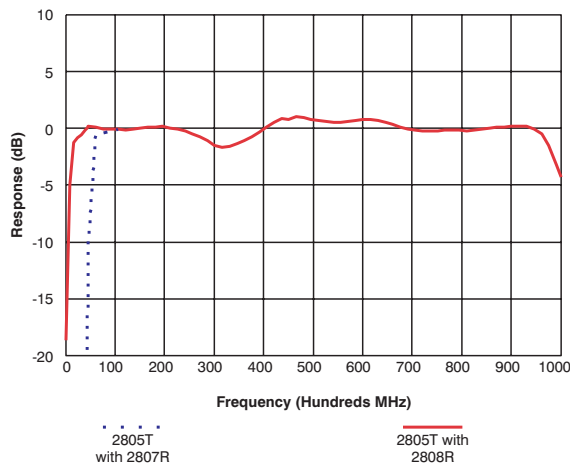

Figure 1.1 In-Band Frequency Response
- Figure 1.1 shows the typical frequency response of a 2805 link over the specified frequency range. The gain flatness is typically  $\pm 1.0$  dB over this range. The flatness is typically less than  $\pm 0.1$  dB over a standard 6 MHz channel bandwidth. See Application Note AN123 for additional information on North American Television Frequencies.